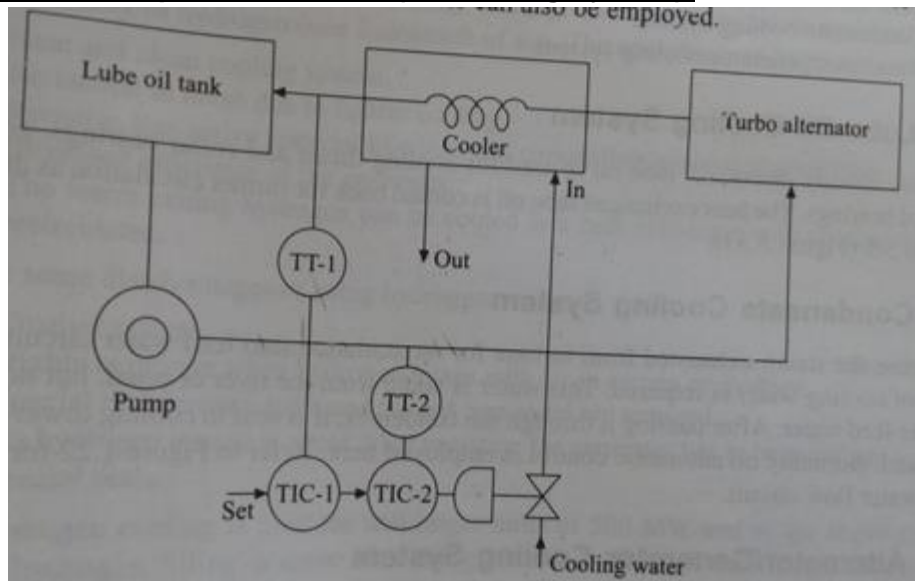

Figure 17 Lube Oil Temperature Control
- A cascade control system with cooler outlet temperature in master loop and the lube oil tank outlet temperature in slave loop is shown in above figure 17.